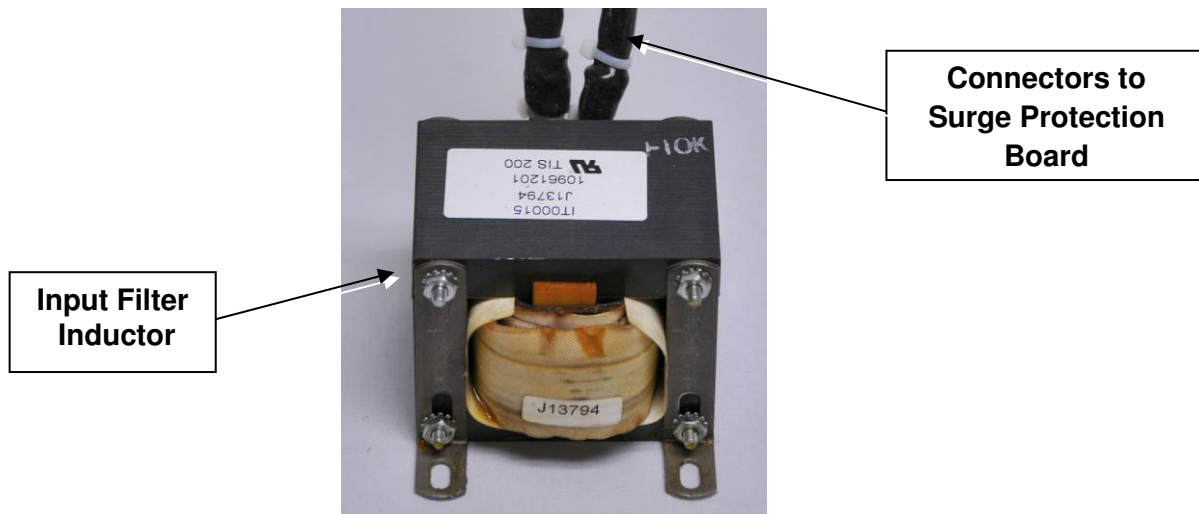

Figure 12: AC Input Filter Inductor
2.7 INPUT FILTER INDUCTOR – This 1mh, iron core filter inductor is off board and is an integral part of the surge protection circuit. It filters out normal mode noise between the line and neutral branches of the incoming AC. See Figure 12.